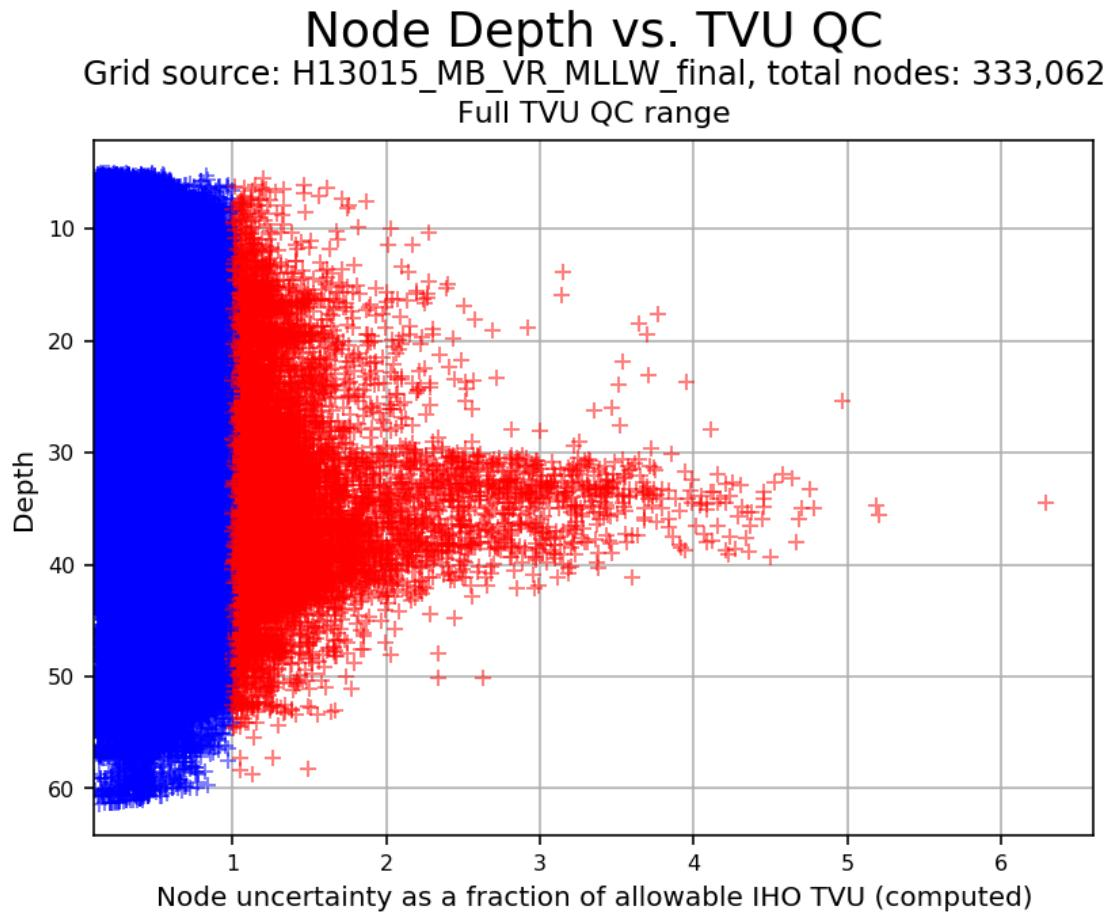

Fig. 2.33: A plot of every node represented in the surface in plotted as its depth on the y axis and its uncertainty as a fraction of the IHO TVU on the x axis.
- Node Depth vs. TVU QC (Fig. 2.33).